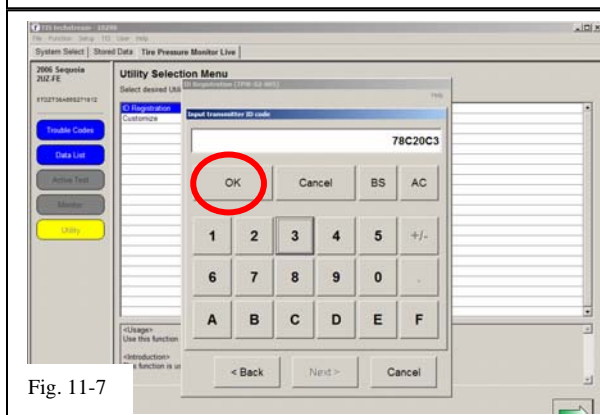

Fig. 11-7
- (j) Input the TPMS ID code then click “**OK**” Repeat the same procedure for all other TPMS ID codes. (Fig. 11-7)